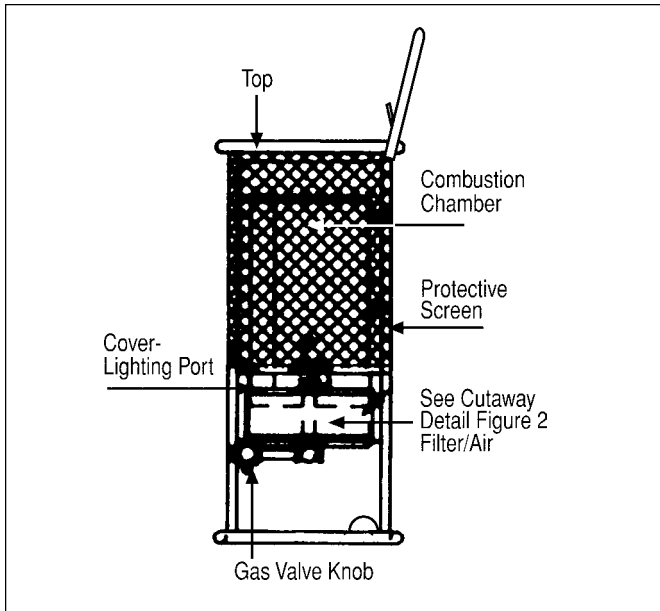

Figure 1
- 3 Turn the gas valve knob clockwise to the "OFF" position. See Fig. 1 and Fig. 2 for location of appliance parts.
- 6 Turn the gas valve knob counter-clockwise to the "PILOT" position (see Fig. 1).
- 7b To light the pilot, move the lighting hole cover aside (see Fig. 1) and place a lighted match into the hole. Depress the gas valve knob and hold while lighting and observing the pilot burner. Ensure that the pilot burner ignites from the match. Allow the pilot to burn approximately 30 seconds before releasing the gas
8. Turn the gas valve knob counter-clockwise to the "ON" position (see Fig. 1). The burner will light. **DO NOT operate the heater in any other than the full "ON" position.**